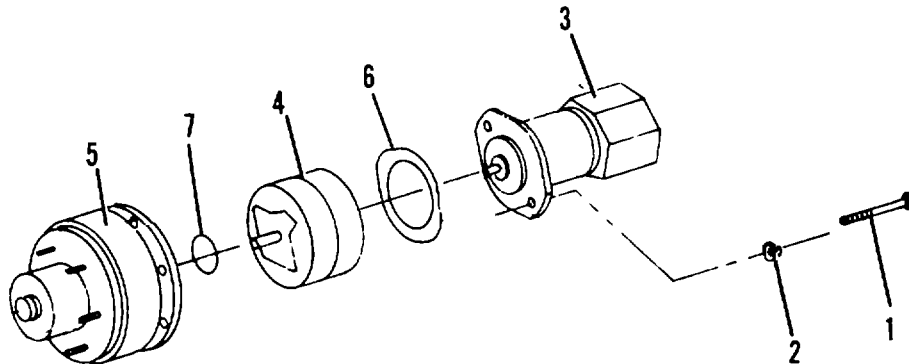

Figure 4-11. Hydraulic Brake Replacement.
(1) Disassembly:
- (a) Remove two capscrews (1, Figure 4-11) and washers (2) securing drive motor assembly (3) to brake assembly (4) and drive hub (5).
- (b) Remove motor assembly (3), remove gasket (6) and discard.
- (c) Remove brake assembly (4) from drive hub (5).
- (d) Remove preformed packing (7) and discard.